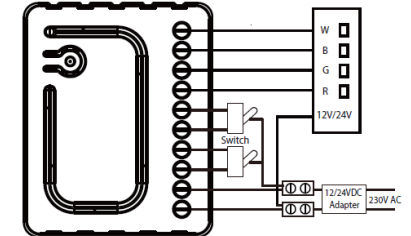

Figure 4. Connecting conductive connector
- According to the Figure 4., you can use the 18AWG copper wire and conductive connector to extend the connection of the power supply.